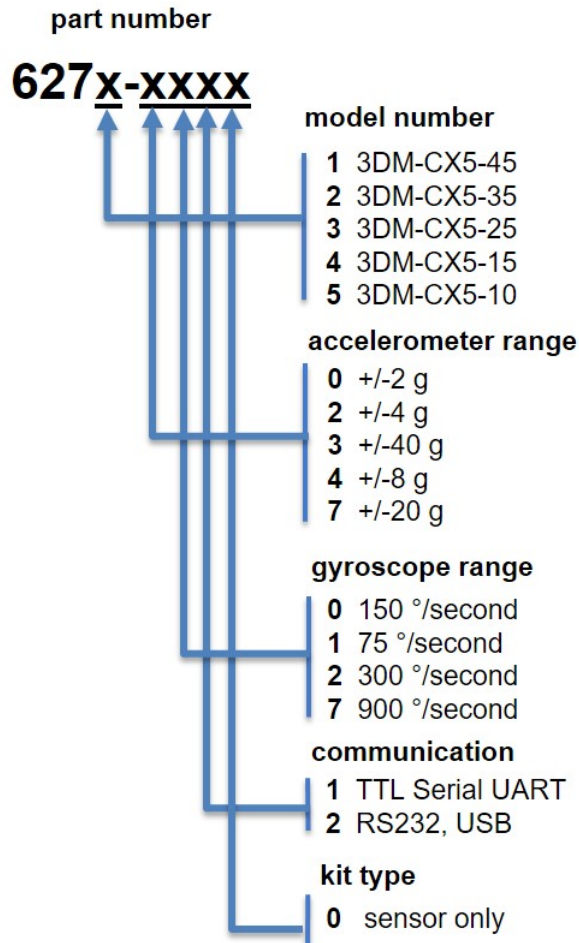

Figure 38 -Standard Part Numbers
*Table 4 - Model Numbers* describes the standard models available at the time this manual was published. Once a model is selected, the part number is further defined by desired configuration and interface options. The model determines the first four digits of the product part number; the options are indicated in the last four digits (*Figure 38 - Standard Part Numbers*).